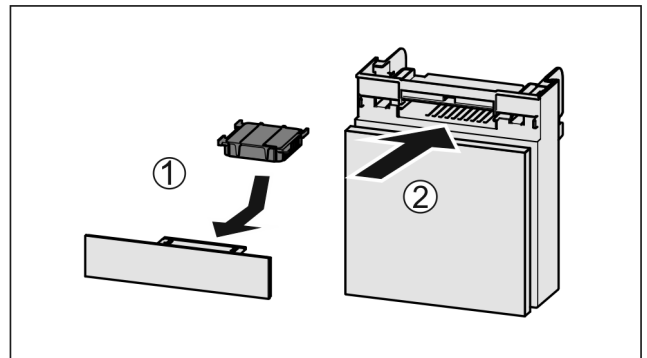

Fig. 83
- Insert the carbon filter as shown in the diagram Fig. 83 (1).
- Push the compartment in Fig. 83 (2).